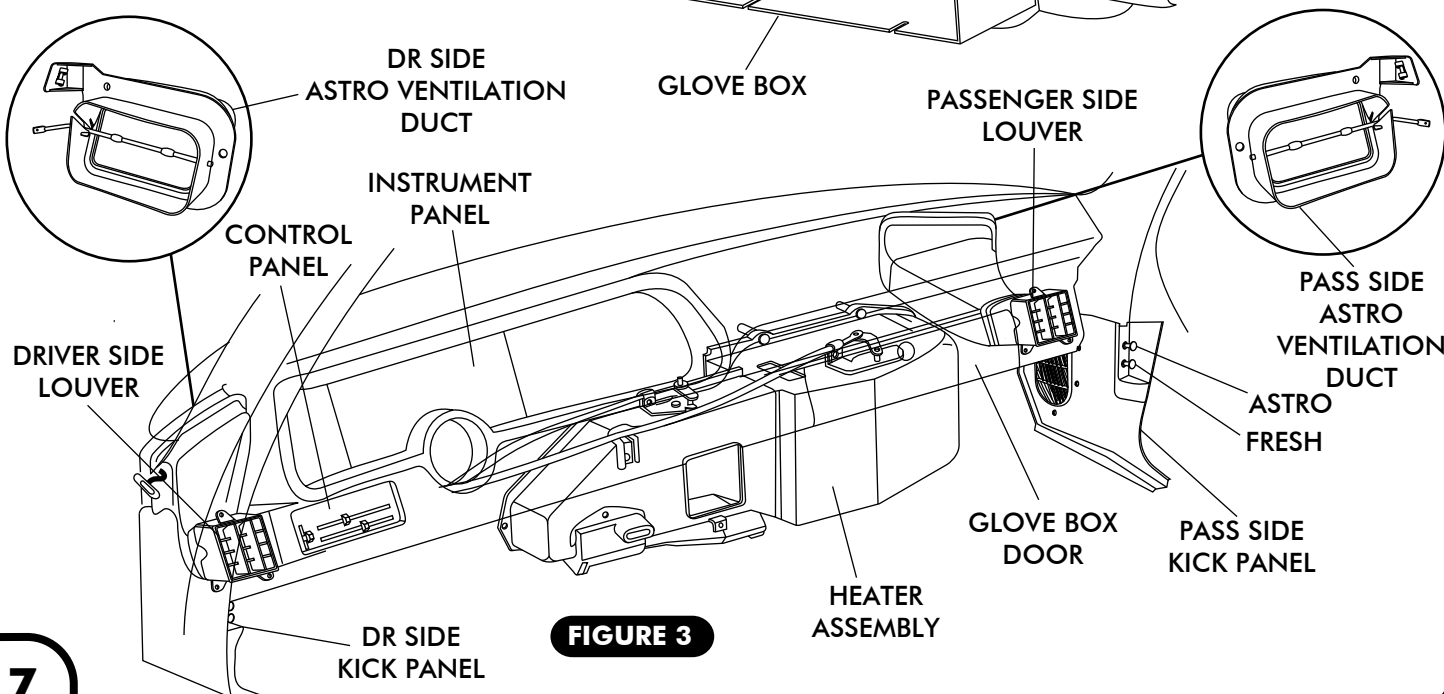

FIGURE 3
- ☐ HEATER BLOWER MOTOR ASSEMBLY (DISCARD). TO REMOVE THE HEATER BLOWER MOTOR ASSEMBLY (UNDER HOOD) AND THE AIR DISTRIBUTION SYSTEM (UNDER DASH), REMOVE INNER FENDER. SEE FIGURE 3.
- ☐ GLOVE BOX DOOR. SEE FIGURE 3
- ☐ HEATER ASSEMBLY AND ALL RELATED DUCTING (DISCARD), RETAIN SCREWS. SEE FIGURE 3.
- ☐ DR/ PASS SIDE LOUVER OUTLETS (RETAIN). INSTRUMENT PANEL MUST BE REMOVED TO GET TO LEFT OUTLET, AND CONTROL PANEL. SEE FIGURE 3.
- ☐ CONTROL PANEL ASSEMBLY (DISCARD). SEE FIGURE 3. REFER TO CONTROL PANEL CONVERSION KIT INSTRUCTIONS FOR INSTALLATION OF CONTROLS.
- ☐ REMOVE PASS SIDE KICK PANEL (RETAIN). DISCONNECT PASS SIDE FRESH AIR CABLE FROM PANEL SEE FIGURE 3. DISCONNECT DR/ PASS CABLE ASTRO-VENTILATION DUCTING (DISCARD).